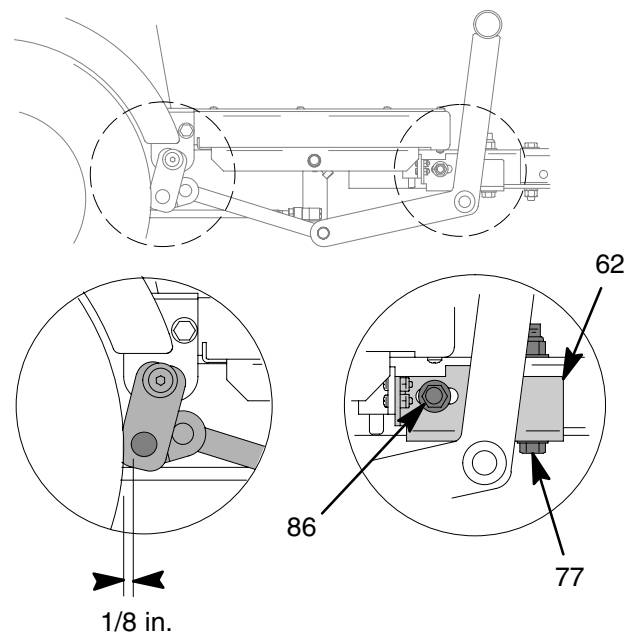

Fig. 2
1. Fig. 2. Loosen two lock nuts (86) and bolts (77) securing brake bracket (62).
2. Slide brake bracket (62) forward or backward to attain desired brake pressure.
3. Tighten lock nuts (86) and bolts (77) securing brake bracket (62).